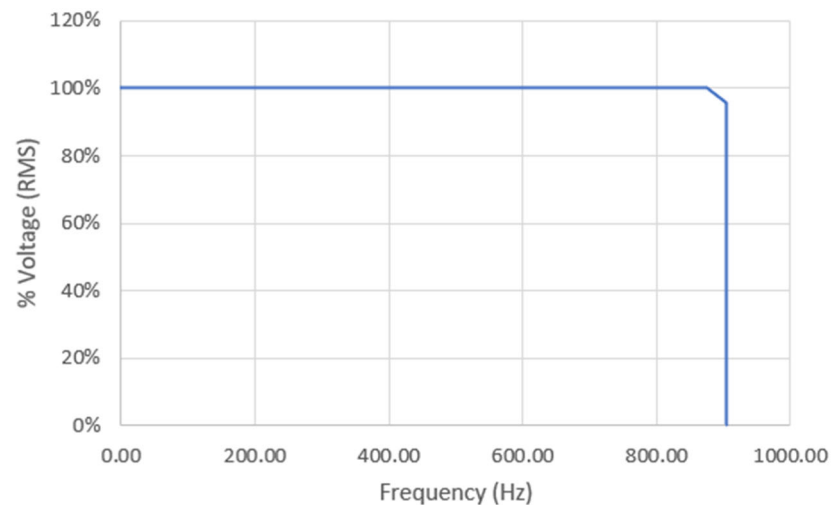

Figure 2-6: Output voltage limit characteristics -HF option
High Voltage Range	Maximum voltage at 905 Hz is 319Vrms Maximum frequency at 333 Vrms is 875 Hz See Figure 2-6
Low Voltage Range	Maximum voltage at 905 Hz is 159 Vrms Maximum frequency at 166 Vrms is 875 Hz See Figure 2-6
-XVC 444 Voltage Range	Maximum voltage at 905 Hz is 425.3 Vrms Maximum frequency at 444 Vrms is 875 Hz. See Figure 2-6
-XVC 555 Voltage Range	Maximum voltage at 905 Hz is 531.6 Vrms Maximum frequency at 555 Vrms is 875 Hz . See Figure 2-6
-XVC 666 Voltage Range	Maximum voltage at 905 Hz is 638 Vrms Maximum frequency at 666 Vrms is 875 Hz . See Figure 2-6
-XVC 721 Voltage Range	Maximum voltage at 905 Hz is 690.6 Vrms Maximum frequency at 666 Vrms is 875 Hz . See Figure 2-6